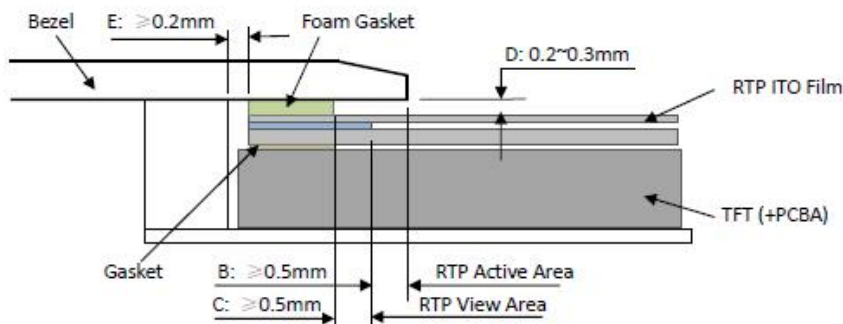

Figure 4
- It should bezel touching the RTP Active Area (A.A) to prevent abnormal touch.It should left gab $D=0.2\sim 0.3\text{mm}$ in between. (Figure 4)
- Outer bezel design should take care about the area outside the A.A. Those areas contain circuit wires which is having different thickness. Touching those areas could de-form the ITO film. As a result bezel the ITO film be damaged and shorten its lifetime. It is suggested to protect those areas with gasket (between the bezel and RTP).The suggested figures are $B\geq 0.50\text{mm}$; $C\geq 0.50\text{mm}$. (Figure 4)
- The bezel side wall should keep space $E= 0.2 \sim 0.3\text{mm}$ from the RTP. (Figure 4)
- 为避免面框直接压在动作区 (A. A.) 上造成误动作, 面框与电阻触摸屏 (RTP) 之间应留有一定的空隙 $D=0.2\sim 0.3\text{mm}$ 之间. (附图 4)
- 设计面框时, 要注意用面框保护触摸屏四周的非保证操作区域, 因为布线区域在此处形成一台阶, 在此区域附近操作时 ITO Film 变形较大, 容易导致 ITO 损坏而降低寿命. 为保护 RTP 和避免误操作, 在 RTP 与面框之间垫缓冲物 (Gasket), 我们建议设计面框应覆盖动作区的边缘, 面框边缘到 V. A. 区的距离 $B\geq 0.50\text{mm}$; 垫圈内边缘到 V. A. 区的距离 $C\geq 0.50\text{mm}$. (附图 4)
- 在设计面框与 RTP 组装时, 应考虑到面框内侧与 RTP 外侧的间距 $E\geq 0.2\text{mm}$. (附图 4)